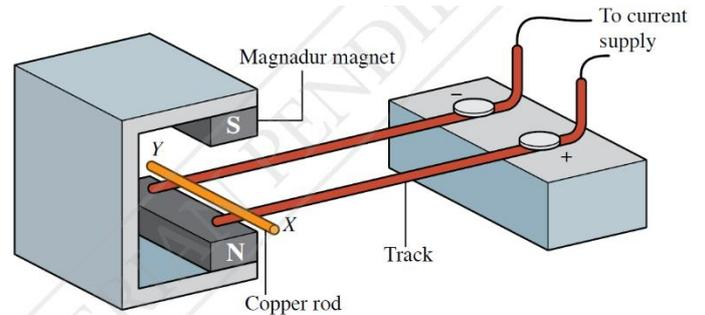

Figure 4.15
2. Figure 4.15 shows the arrangement of apparatus to study the effect of a force on a current-carrying conductor.